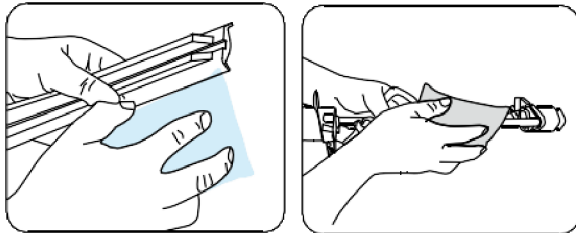

Figure 5-38
4. Wipe the scraper blade and beater with a soft cloth. (Figure 5-38.)